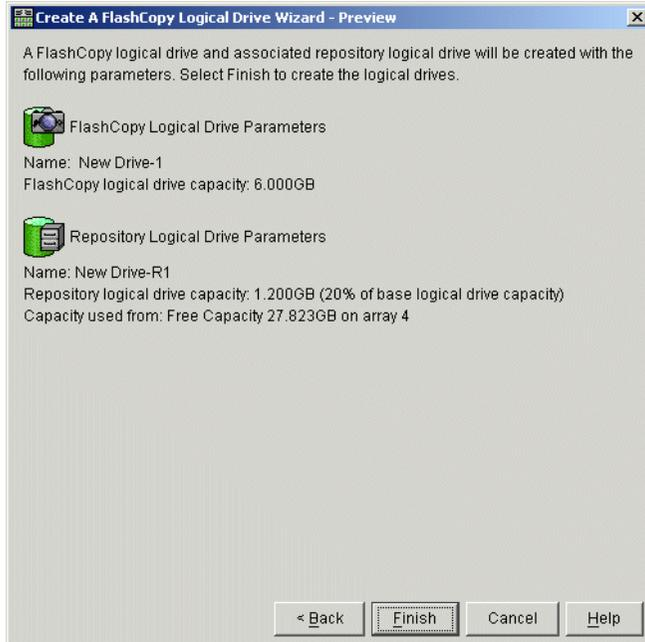

Figure B-10 Create A FlashCopy Logical Drive Wizard - Preview window
- The Create A FlashCopy Logical Drive Wizard - Preview window is displayed (see Figure B-10):